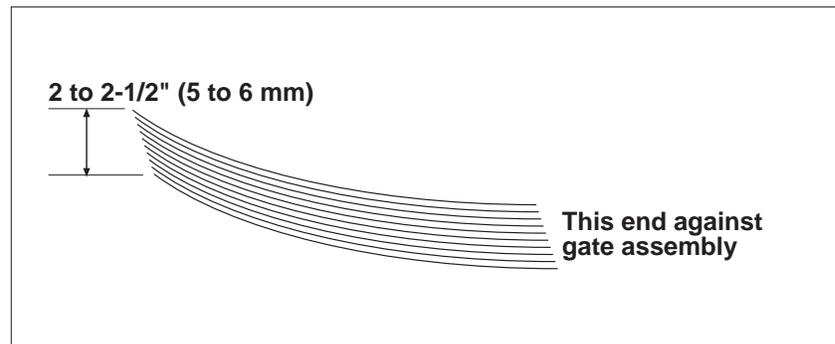

Figure 11. Preshingling a Small Stack of Material By Hand
1. Grasp a handful of product, approximately 2 to 2-1/2 in. (5 to 6 cm) thick, and preshingle the edges with your thumb (Figure 11).